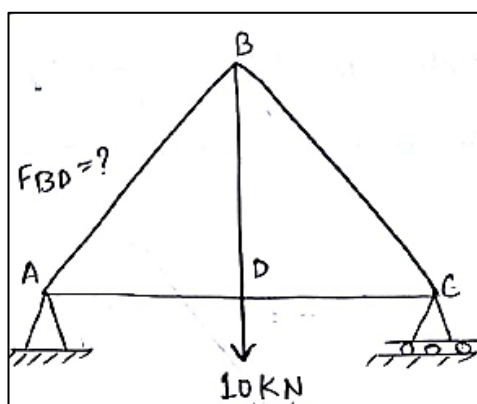

Fig. 1
- (vi) Force in the member BD of the pin-jointed frame as shown in Fig. 1 below is